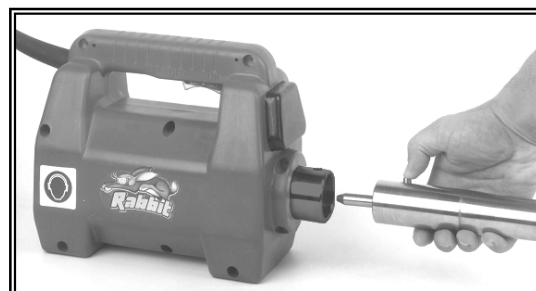

Fig.: 1.7-1
**Transmission Assembly:** To assemble the flexible transmission to the motor, press the locking button down completely, then the transmission coupling is introduced into the coupling of the engine, making the two planes of the terminal cable coincide with the coupling lug, and introduce softly until the locking button coincides with the safety housing of the engine. If it drags **DO NOT FORCE**, make the engine turn slightly to ease the introduction and perfect coupling. (See Fig.: 1.7-1)